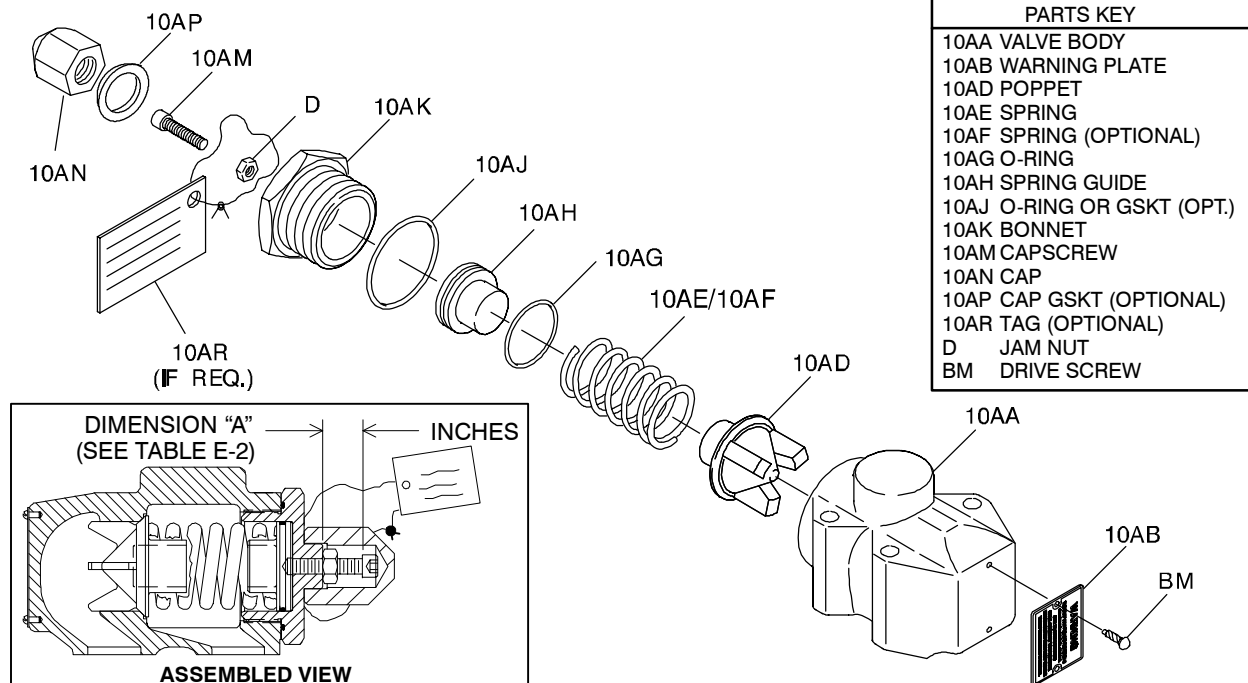

Figure E-6. Pressure Relief Valve Assembly
(Figure E-6)
Install the jam nut (D) on the adjustment capscrew (10AM) and thread the capscrew into the bonnet until the desired height ("A", Figure E-6) is reached. Refer to the separate Parts List accompanying your pump and determine the hydraulic size (D, G, J, etc.) and spring option code (STD, 25D, etc.) for your pump. See Table E-2 and adjust the